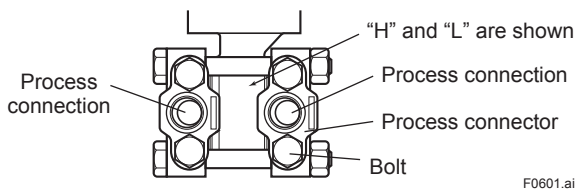

Figure 6.1 “H” and “L” Symbols on a Capsule Assembly
(1) Check the High and Low Pressure Connections on the Transmitter (figure 6.1)